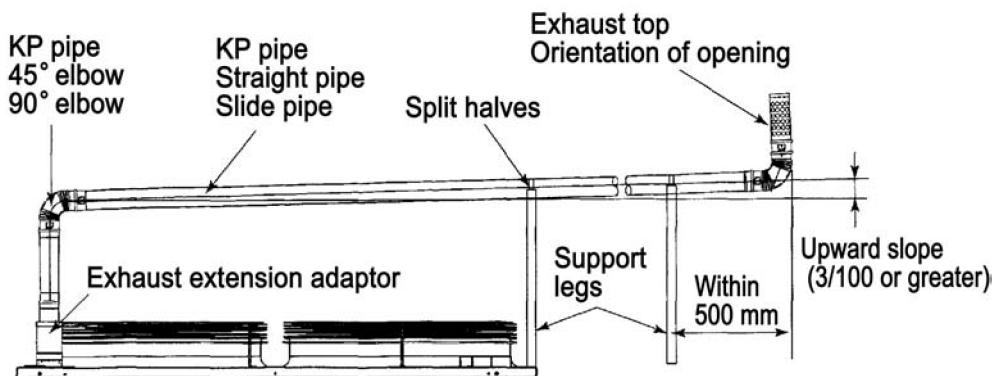

Figure 7
- 1) To secure the exhaust pipe, attach the fittings (support legs and split halves) on site, and use the bolts/screws of the unit top plate to secure the pipe. Refer to the example in Figure 7.
- 3) The length from the exhaust extension pipe final securing edge is limited to 500 mm or less. Refer to Figure 7.
- 4) Refer to the example in Figure 7.